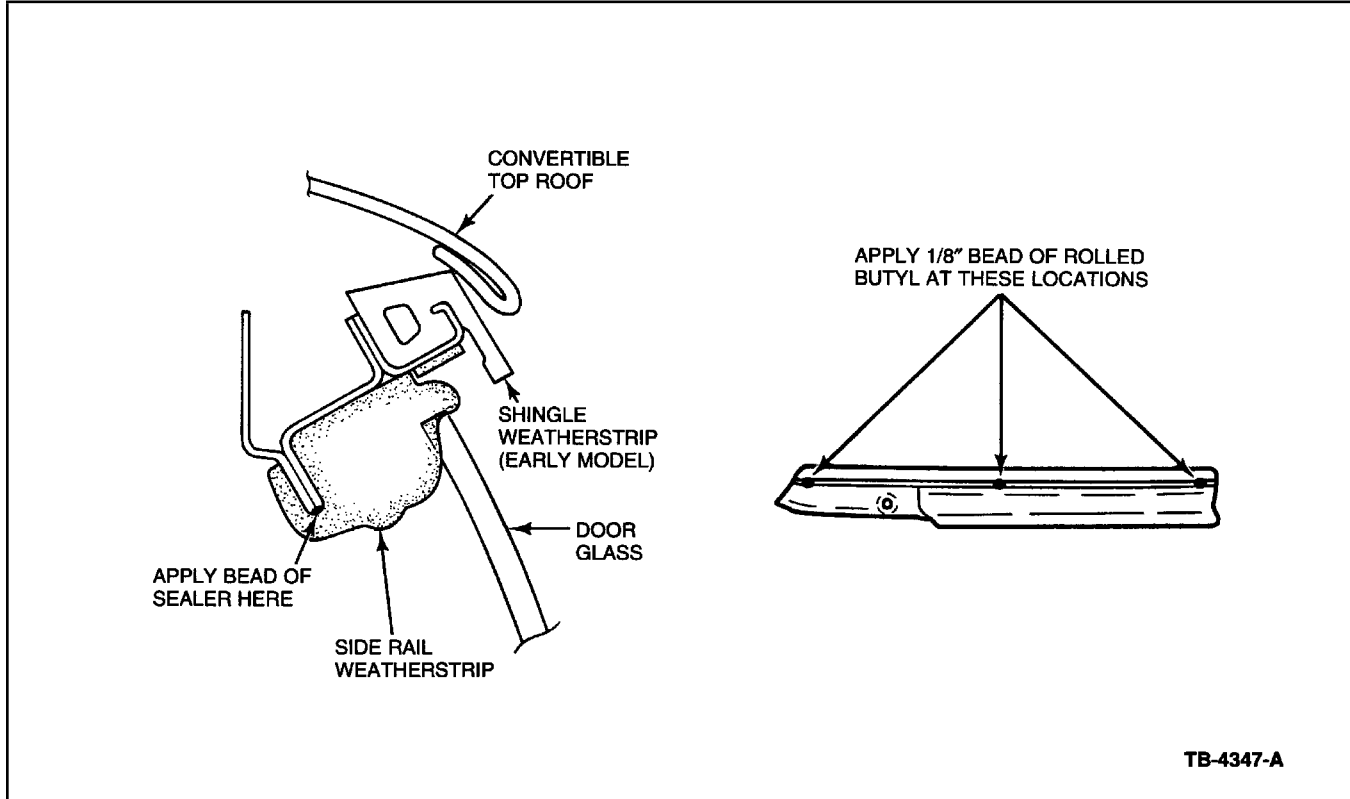

Figure 1 - Article 96-10-2
3. Apply three (3) strips of 1/8" rolled butyl sealer crosswise on the channel in the weatherstrip carrier. Apply one (1) strip at each end of the weatherstrip, and one (1) across the center. Refer to Figure 1. Reinstall the two (2) weatherstrips onto the convertible top frame.